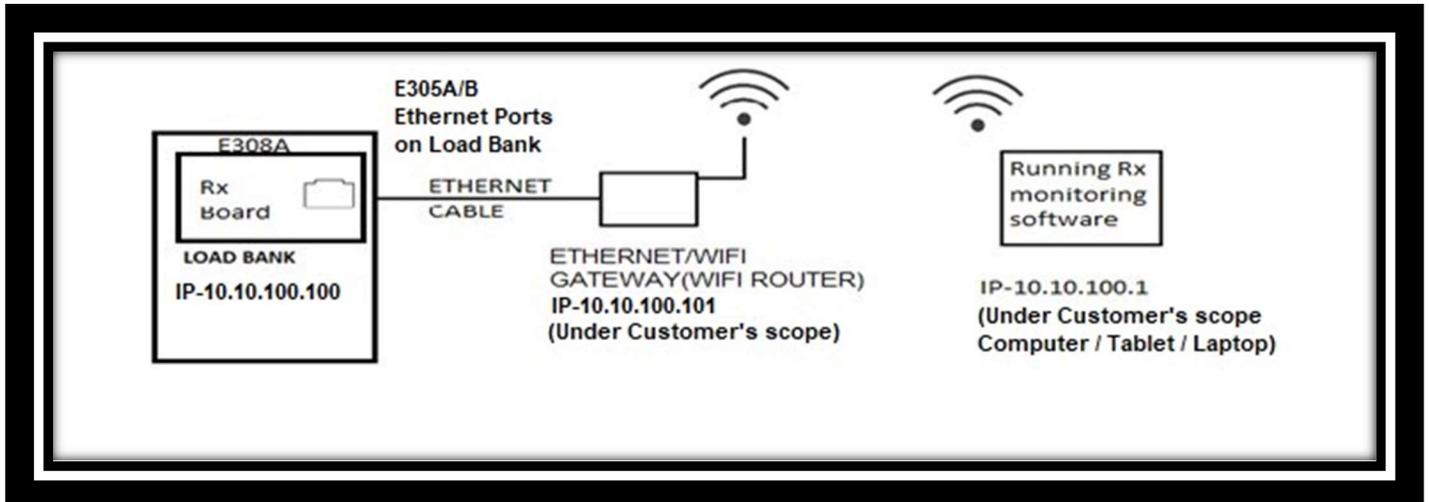

Figure 8 Hardware setup
- Create hardware set up as shown above(See figure 8).